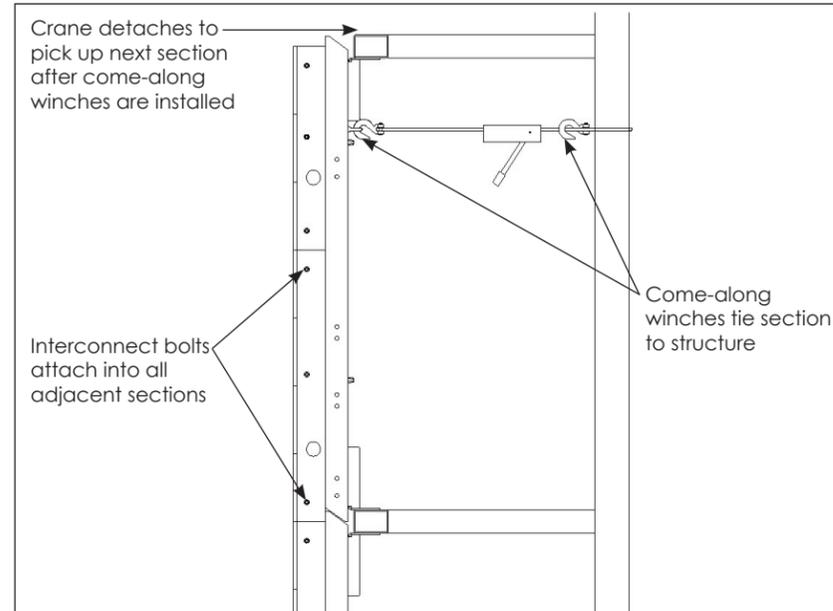

Figure 3: Keep Section in Place
- If a sufficient structure exists, 1/2" eyebolts can be installed in the rear of the full-height tubes, and come-along winches can be tied back to the structure. Refer to **Figure 3**. After the section is secured back with the come-along winches, the crane can be released to pick up the next section. The come-along winches should remain attached to the section until **Step 8** is complete, and the section is permanently attached to the structure.